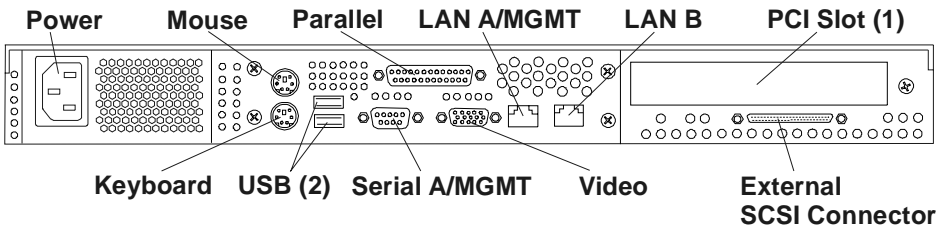

Figure 1-3. Rear Panel and Ports
The ports and connectors at the rear are listed below and shown in Figure 1-3.
1. Ensure the HP Netserver's power cord is connected to the power source. See Figure 1-3.